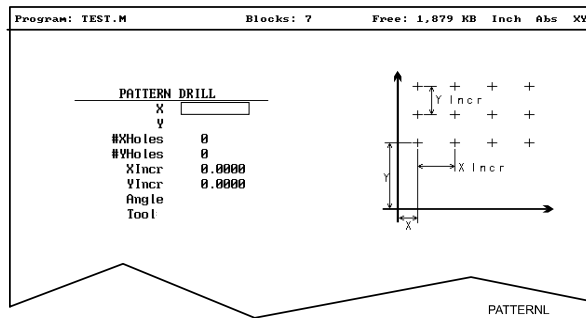

Figure 4-6, Pattern Drill Graphic Menu
2. Select **Pattern** from the **Drill** pop-up menu and press **ENTER** to display the **PATTERN DRILL** Graphic Menu. Refer to **Figure 4-6**.